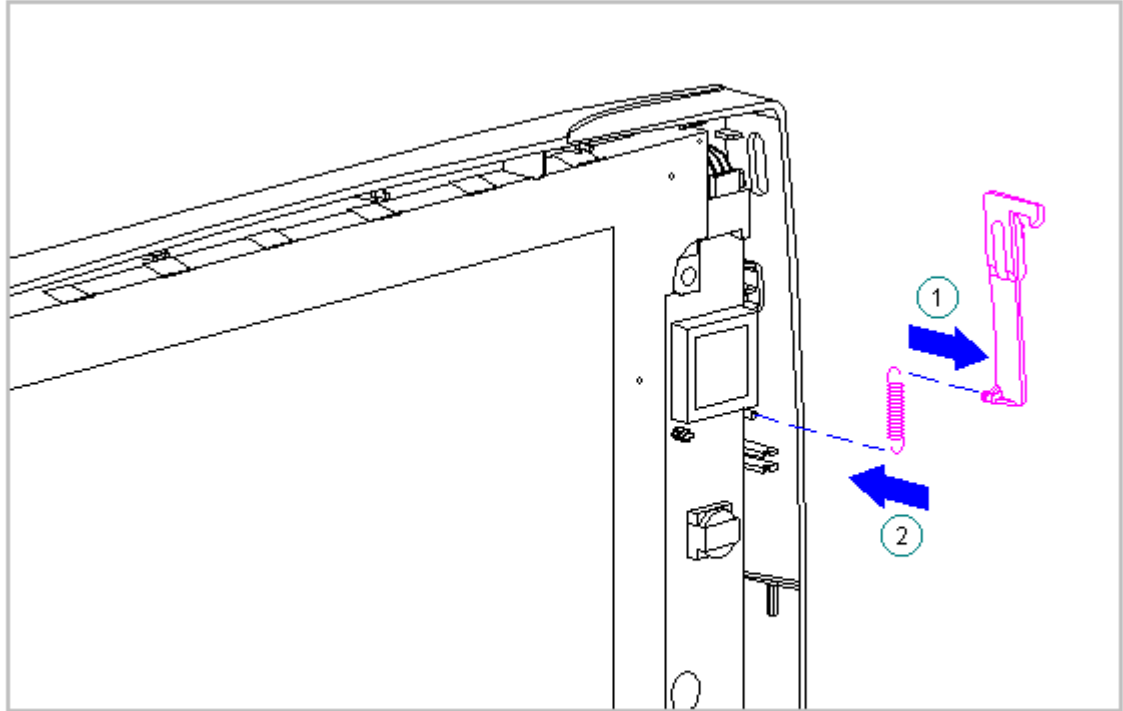

Figure 5-75. Replacing the Display Latch Spring
1. Hook the display latch spring on to the display latch [1] and place the display latch spring over the post in the display enclosure [2] (Figure 5-75).